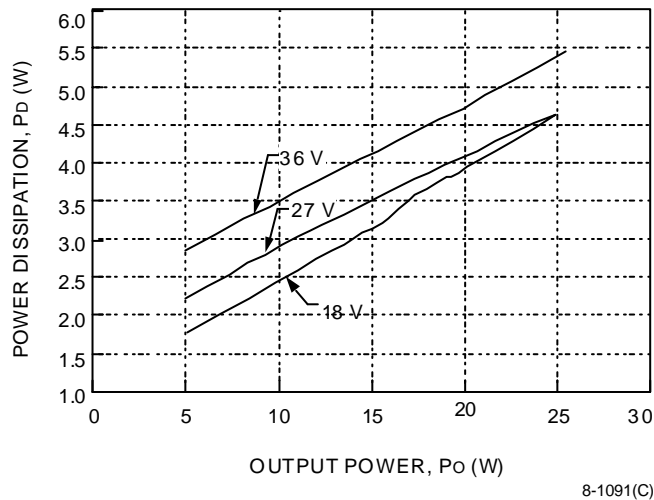
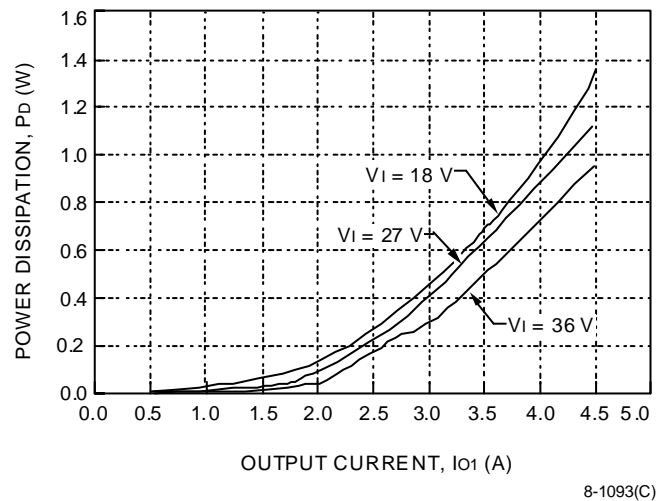
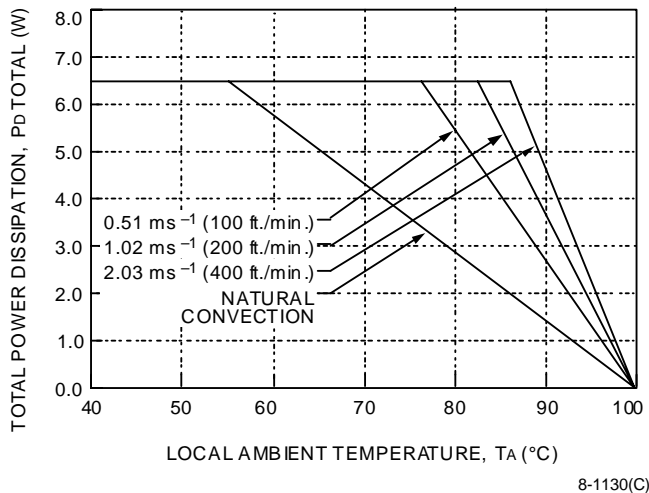

Figure 23. DC025ABK-M Fixed Losses, P_p
Figure 25. DC025ABK-M, DC025ACL-M Losses, Associated with 5 V Output, P_{s1}
Figure 28. Total Power Dissipation vs. Local
The maximum operating temperature of the DC025 Triple Output-Series Power Modules at a given operating condition can be predicted by combining the power dissipation curves (Figures 23 through 27), the power derating curve (Figure 28), and the thermal resistance curve (Figure 28).
Use Figures 23 through 28 and the steps below to predict the safe operating region for many different operating and environmental conditions.
2. Use P_{ototal} with the appropriate figure (Figure 23 or 25) to determine the fixed losses (P_{P}) associated with operating at P_{ototal} . These losses are independent of which output the load is being drawn from.
3. Use the desired output current (I_{o1}) with Figure 25 to determine P_{S1} , which is the additional power being dissipated due to loading of the main output.
4. Repeat Step 3 for outputs 2 and 3 using the appropriate figure (Figure 23 or 27) to determine P_{S2} and P_{S3} , which is the power dissipated due to loading of the auxiliary outputs.
6. Use the estimated total power dissipated (P_{Dtotal}) along with Figure 28 to determine the maximum ambient temperature allowable for a given air velocity.
$$\begin{aligned} P_{\text{P}} &= 4.5 \text{ W (from Figure 23)} \\ P_{\text{S1}} &= 0.22 \text{ W (from Figure 25)} \\ P_{\text{S2}} &= 0.07 \text{ W (from Figure 23)} \\ P_{\text{S3}} &= 0.07 \text{ W (from Figure 23)} \end{aligned}$$
Figure 28 shows that in natural convection the maximum operating ambient temperature for this module is approximately 66 °C.
The air velocity required to maintain a desired maximum case temperature for a given power dissipation and ambient temperature can be calculated using Figure 28 and the following equation:
This corresponds to an airflow greater than 0.38 ms⁻¹ (75 fpm) in Figure 28.